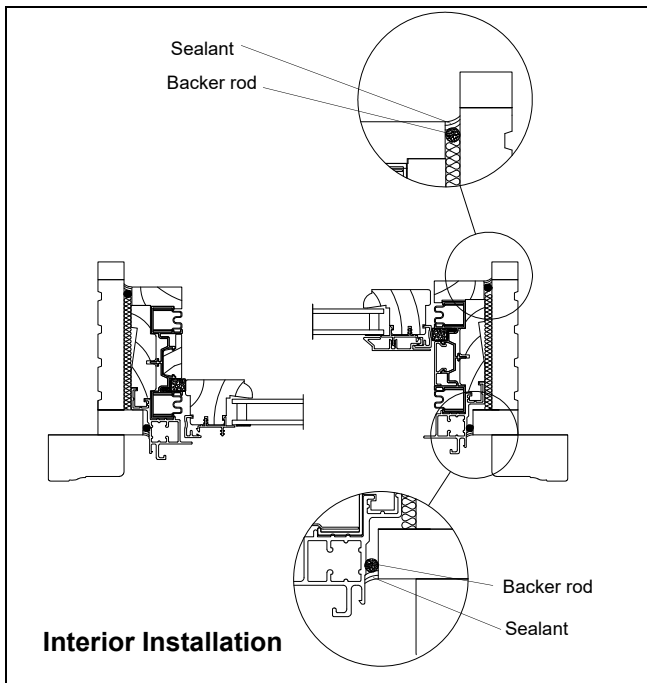

Figure 19
17. Run a bead of sealant between the insert unit frame and existing frame blind stop. See figure 19. If necessary, install backer rod prior to sealant application.